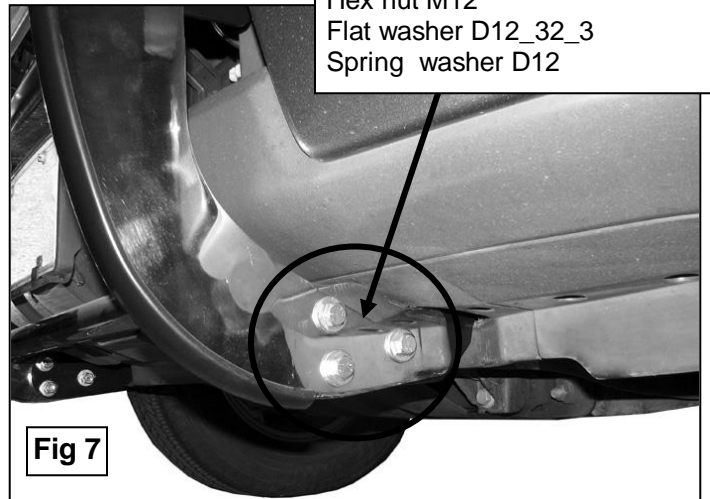

Fig 7
7. With assistance, position the Grille Guard bolt tabs up to the outside of the Mounting Brackets. Attach the Grille Guard to the Mounting Brackets using the included (6) 12mm x 35mm Hex Head Bolts, (6) 12mm Lock Washers, (12) 12mm Flat Washers and (6) 12mm Hex Nuts, (**Figure 7**). Do not tighten at this time.